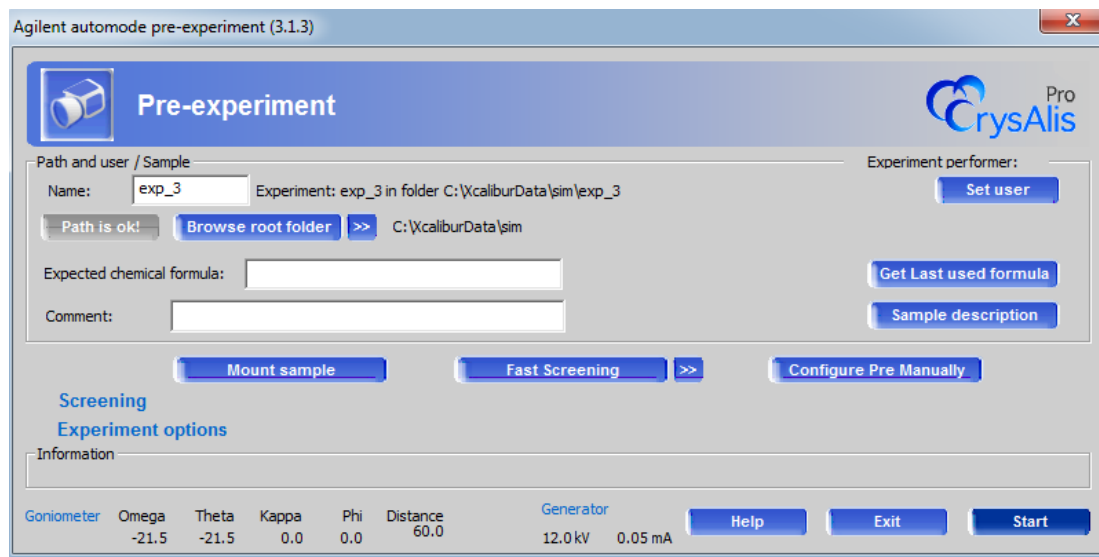

Figure 9: Pre-experiment screening window for small-molecule experiment
3. Click on **Start/Stop** and select **Start new experiment**. The pre-experiment window will appear (see Figure 9).